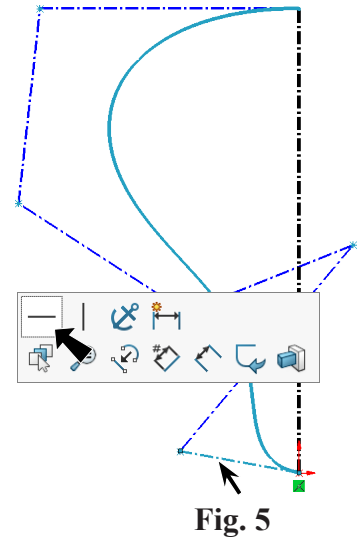

Fig. 5
Step 8. Click **bottom control polygon segment** and click **Make Horizontal**  on the context toolbar, **Fig. 5**.